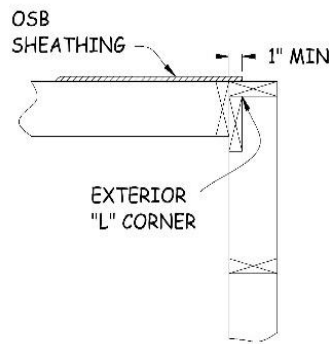

Figure 23-1. Exterior L-Corner.
4. At each end of the long walls, lay out an L-corner with two 2x4 studs made up of the normal 2x4 end stud plus an extra 2x4 stud perpendicular to the end stud on the interior side of the wall (see Figure 23-1). Mark the "L" as "Corner Down" to specify that the extra 2x4 will lay face down on the deck as the wall is being built. This will place the existing 2x4 stud facing the end of the adjoining short wall forming an inside corner.